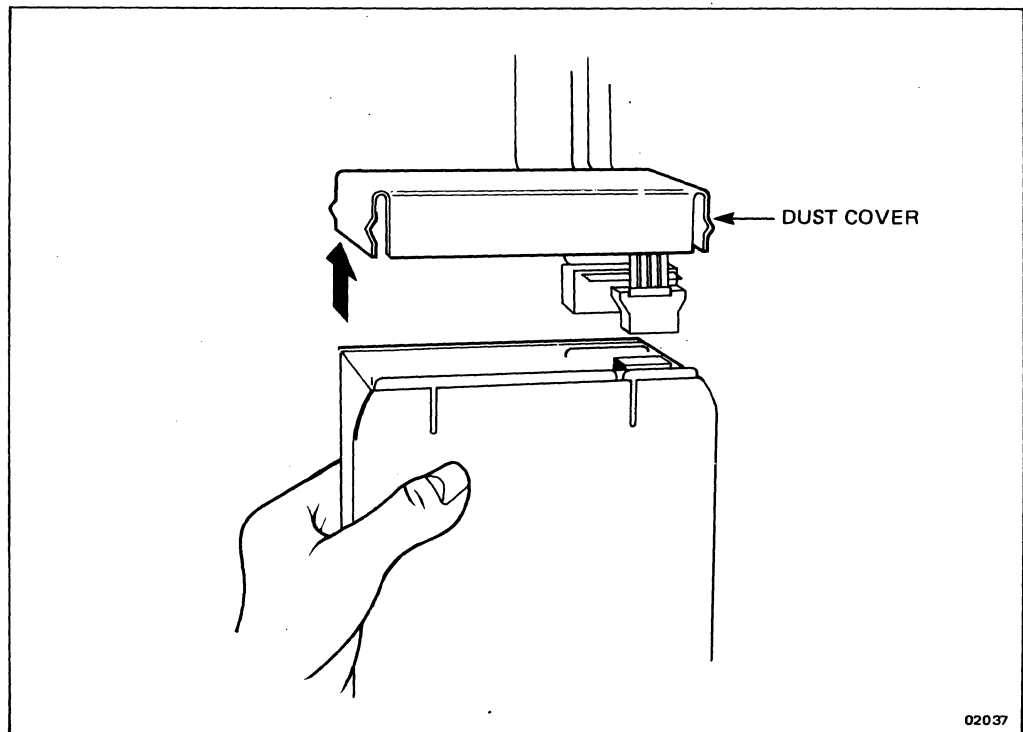

Figure 6-4. Removing/Replacing the Tape Drive
4. Slide the tape drive out of the chassis. Notice the two cables connected to the back of the drive and the steel dust cover that protects the cables as shown in Figure 6-4.
4. Connect the 57-pin connector to the corresponding connector on the back of the drive as shown in Figure 6-4. Do not twist the cable -- keep the red cable stripe to your right as you face the back of the system.